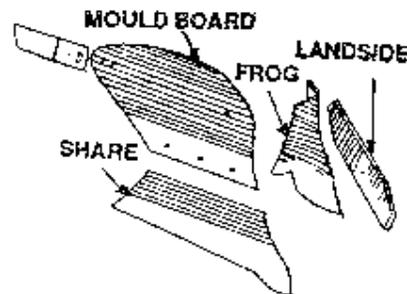

Fig.2. Components of Mould Board plough
M.B. plough consists of (Fig.2) Share, Mould board, Land side, Frog and Tail piece.